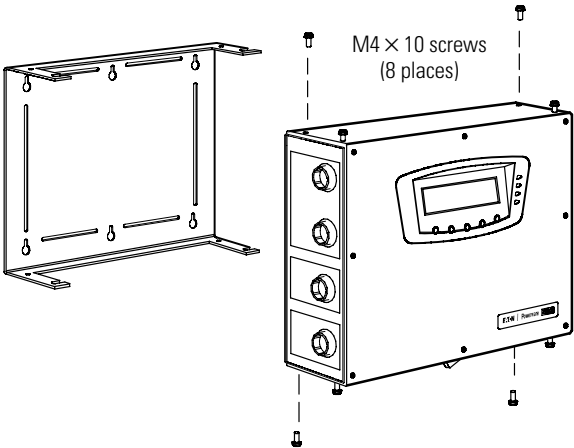

Figure 2. Mounting Bracket and Electronics Module (with Optional Display)
- 2. Loosen the four front screws, and remove the four rear screws. Remove the mounting bracket from the electronics module. Retain the bracket and four removed screws. See Figure 2.
5. Verify all screw holes are aligned. Reinstall the four screws removed in Step 2, but do not fully tighten. See Figure 2.